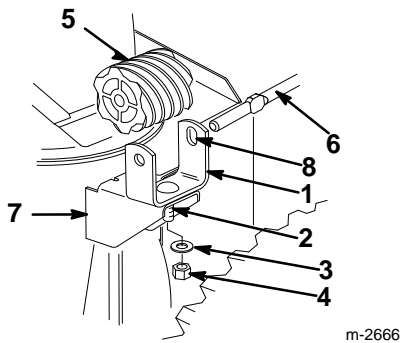

Figure 14
5. Insert the carriage screw into the worm gear bracket mounting hole (Fig. 14).
6. Position the worm gear into the bracket, align the slotted holes in the worm gear and the bracket, and insert the chute gear rod through the slotted holes in the bracket and the worm gear (Fig. 14).
7. Loosely mount the worm gear and the bracket to the mounting flange with a carriage screw, a flat washer, and a locknut (Fig. 14).